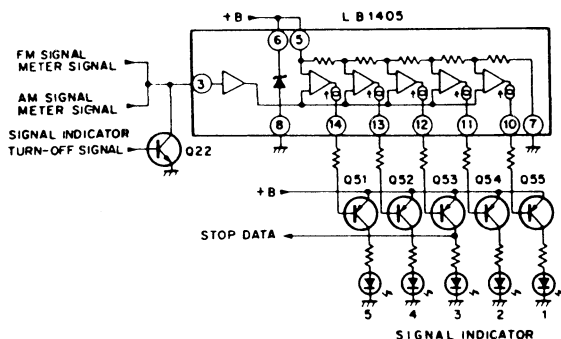
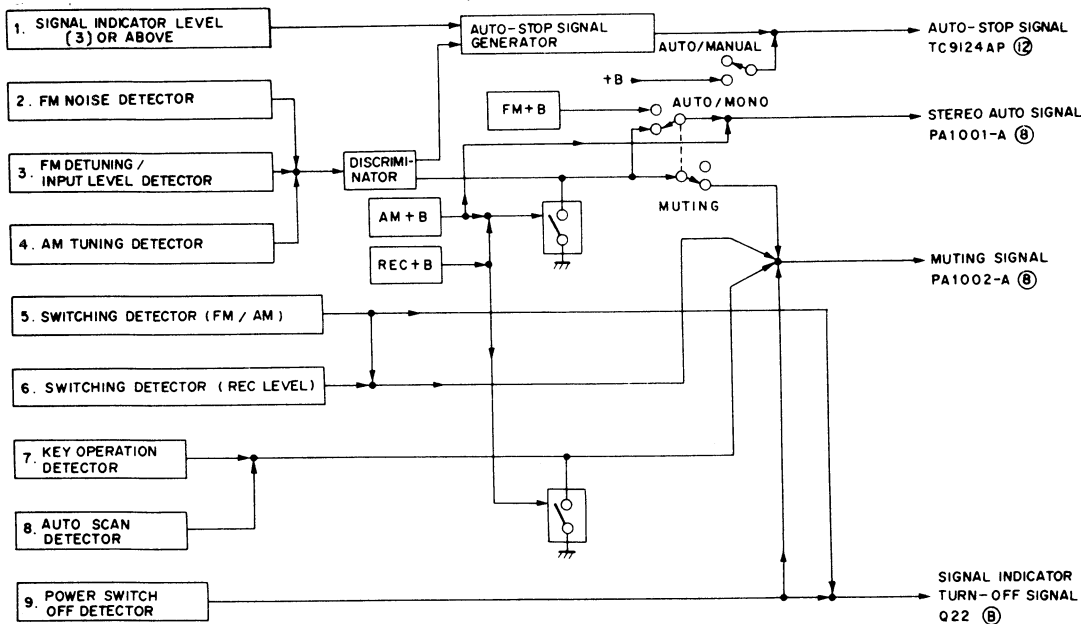
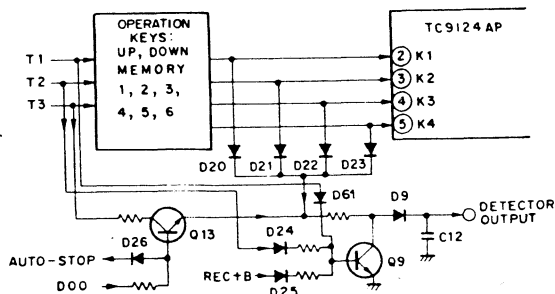
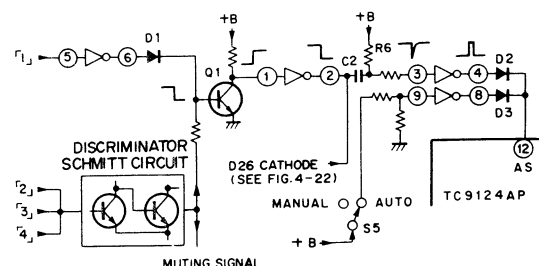

Fig. 4-17 Signal Indicator Circuit
Fig. 4-18 Outline of the Muting Control Circuit
Fig. 4-22 Key Operation/Auto Scan Detector
Fig. 4-24 Auto-Stop Signal Generator Circuit
The 5100 signal meter is a 5-point LED display meter driven by the meter drive IC (LB1405) (see fig.4-17). The signal meter drive signals from the FM and AM tuner sections are applied to a set of 5 voltage comparators which are activated according to the difference between the applied signal level and the respective reference voltage levels allotted to each comparator. Q51-Q55 are thus turned on according to a priority basis, resulting in the corresponding LED's
A block diagram outline of the muting control circuit is shown in fig.4-18. By various combinations of the 1-9 detector circuits, the auto-stop signal and stereo/mono switching signal, the muting signal and the signal indicator turn-off signal may be obtained.
This stop data is used to halt the auto scan mode. When SIGNAL 3 lights up(see fig.4-17), an H output(high level) is obtained.
Note that the S4 switching detector signal is also used as the SIGNAL indicator turn-off signal passed via D12 (the connection to the base of Q22 in fig.4-17).
This circuit is responsible for muting during auto scan mode. During this mode the display signal output appears at the DO0 terminal of TC9124AP at T3 timing. This output is synchronized by Q13, and converted into a continuous output signal by D9 and C12 following detection(see fig.4-22). When a particular frequency is tuned, the D26 cathode voltage is decreased(connected to the inverter (1)-(2) output in fig.4-24), resulting in the output being blocked by Q13.
This detector signal is also passed via D26 to be used as the SIGNAL indicator turn-off signal(connected to the base of Q22 in fig.4-17).
The auto-stop signal is used to half the auto scan mode(fig. 4-24). Detector data 1(see fig.4-18 for data numbers)is inverted by inverter(5)-(6), and applied to the base of Q1. Since data 1 is the H(high level) obtained from the SIGNAL indicator circuit (fig.4-17)when SIGNAL 3 is lit up, the inverter(5)-(6)output is switched to L(low level)by SIGNAL 3 and above. Detector data 2 and 3 correspond to correct runing during FM reception, and L (low level)output during AM reception. Furthermore, detector data 4 corresponds to tuned status during AM reception, and low level output during FM recpetion. Consequently, when a frequency is tuned during either AM or FM reception, the Schmitt circuit output is switched to L. As a result, if SIGNAL 3 indicator lights up when an AM or FM frequency is tuned, Q1 is turned off, and the collector voltage increased. This voltage is then inverted by inverter(1)-(2), and differentiated by C2/R6 in order to detect the voltage change. The resultant voltage is inverted by inverter(3)-(4), rectified, and then applied via D2 to the AS terminal of TC9124AP as a positive pulse(detected when Q1 is turned off). The auto scan mode is thus brought to a stop.